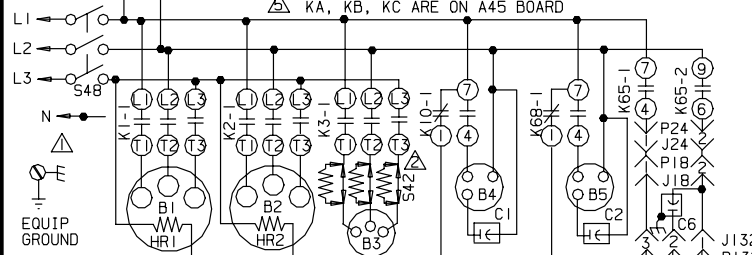

**FIGURE 4**
- 3- Connect thermostat wiring to TB1 terminal on MCC (A45) control board as shown in figure 4 for electro-mechanical and electronic thermostats. If using other temperature control devices or energy management systems see instructions and wiring diagram provided by manufacturer.